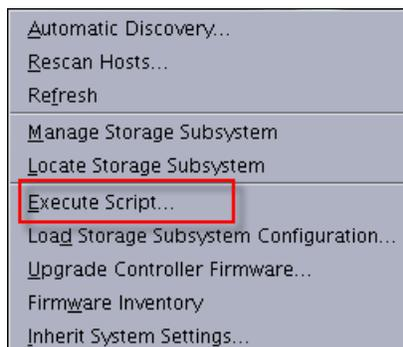

Figure 5-70 Tools menu from the IBM Storage Manager Enterprise window
- From the IBM Storage Manager enterprise management window select **Tools** → **Execute Script** as shown in Figure 5-70.